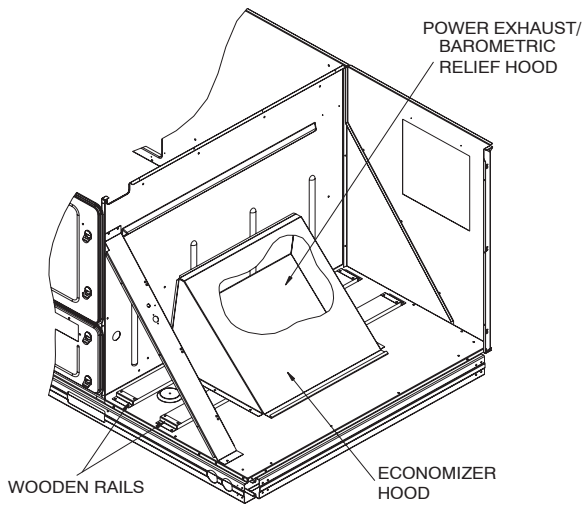

Fig. 18 – Economizer and Barometric Relief/Power Exhaust Hoods Shipping Positions
1. Economizer and barometric relief hoods are located in the condenser section under the slanted coil for shipping. (See Fig. 18.) Barometric relief/power exhaust hoods are shipped inside of economizer hoods. Remove screws that secure the wooden rails of the hood assemblies to the unit. Save screws. Slide complete assembly from condenser section.